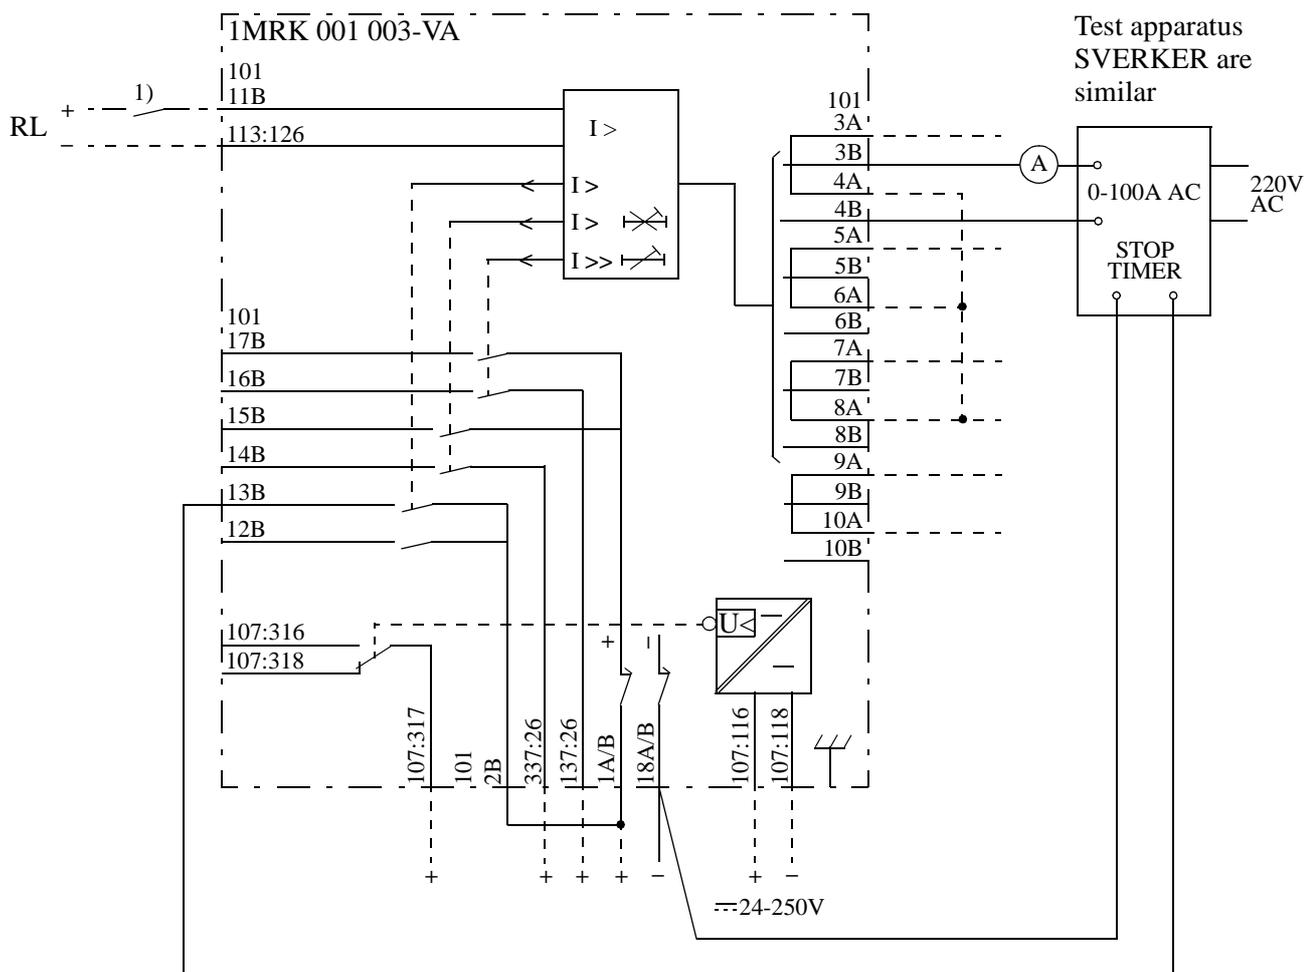

Fig. 47 Connection of test apparatus for testing of phase L1
Fig. 47 shows as an example the connection of test set SVERKER for secondary testing of the 3-phase overcurrent and earth-fault protection RAIDK 4, Connection Diagram 1MRK 001 003-VAA. When testing, even the actual circuit diagram of the protection, which shows the internal connections, should be available.
**1.** Connect the test set and the ammeter acc to Fig. 47 to test the relay functions for phase L1 and insert the test-plug into the test switch. Auxiliary voltage shall be connected to terminals 101:1A and 101:2A. Interconnect terminals 1 and 2 on the test handle to get output voltage to test terminals 12 and 13 when the start function is activated for a phase overcurrent resp. earth-fault relay.